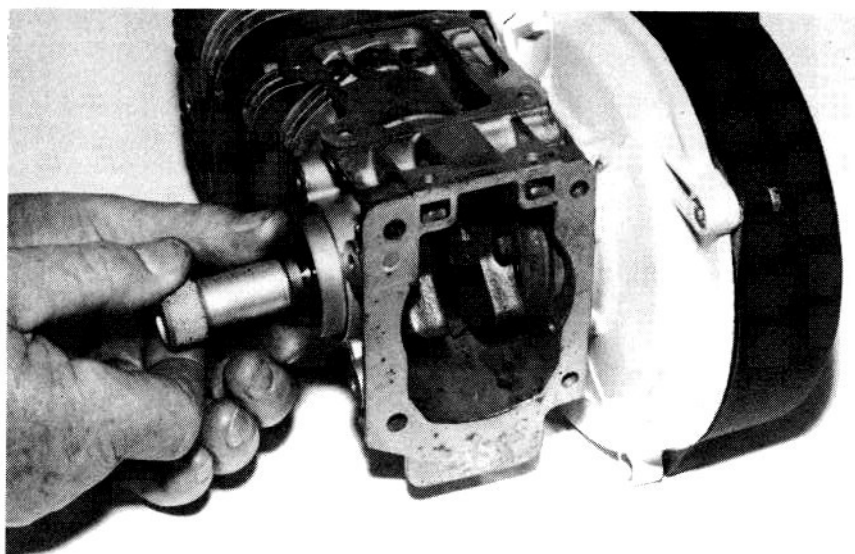

FIGURE 22
6. On MC 101 Series engines, place a lightly oiled seal protector on the sprocket end of the crankshaft and press the crankshaft and bearings into the crankcase (Figure 22).